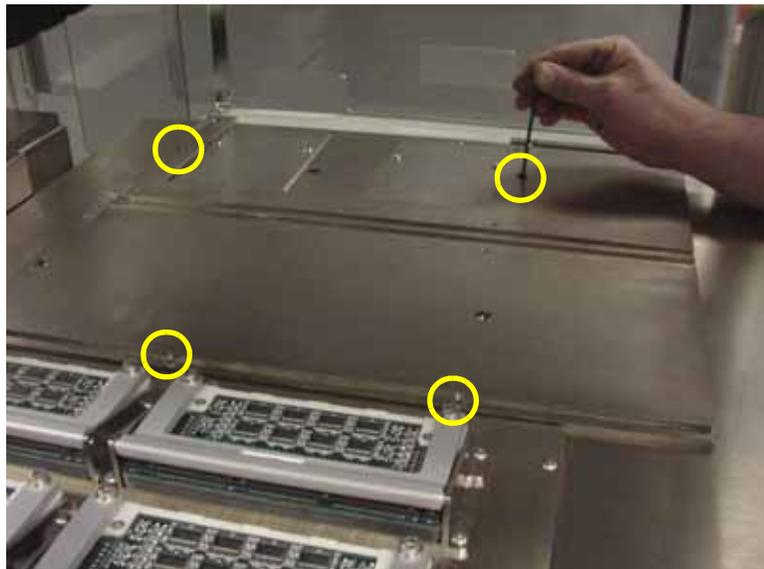

Figure 1-58—Tighten four screws securing mount plate to base plate
- 10b) Tighten the four screws (locations indicated by circles in *Figure 1-58*).